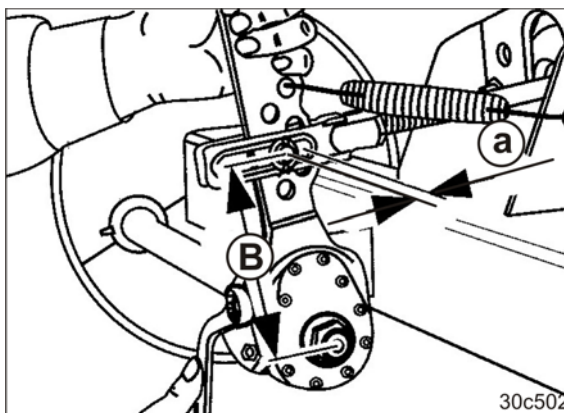

Fig. 338
1. Manually actuate the slack adjuster (Fig. 338) in the push direction.
2. Measure the stroke (Fig. 338/a) of the long-stroke diaphragm cylinder push rod.
The stroke (Fig. 338/a) can be a maximum of 35 mm.
Adjust the stroke (Fig. 338/a) to 10-12 % of the brake lever length (Fig. 338/B).